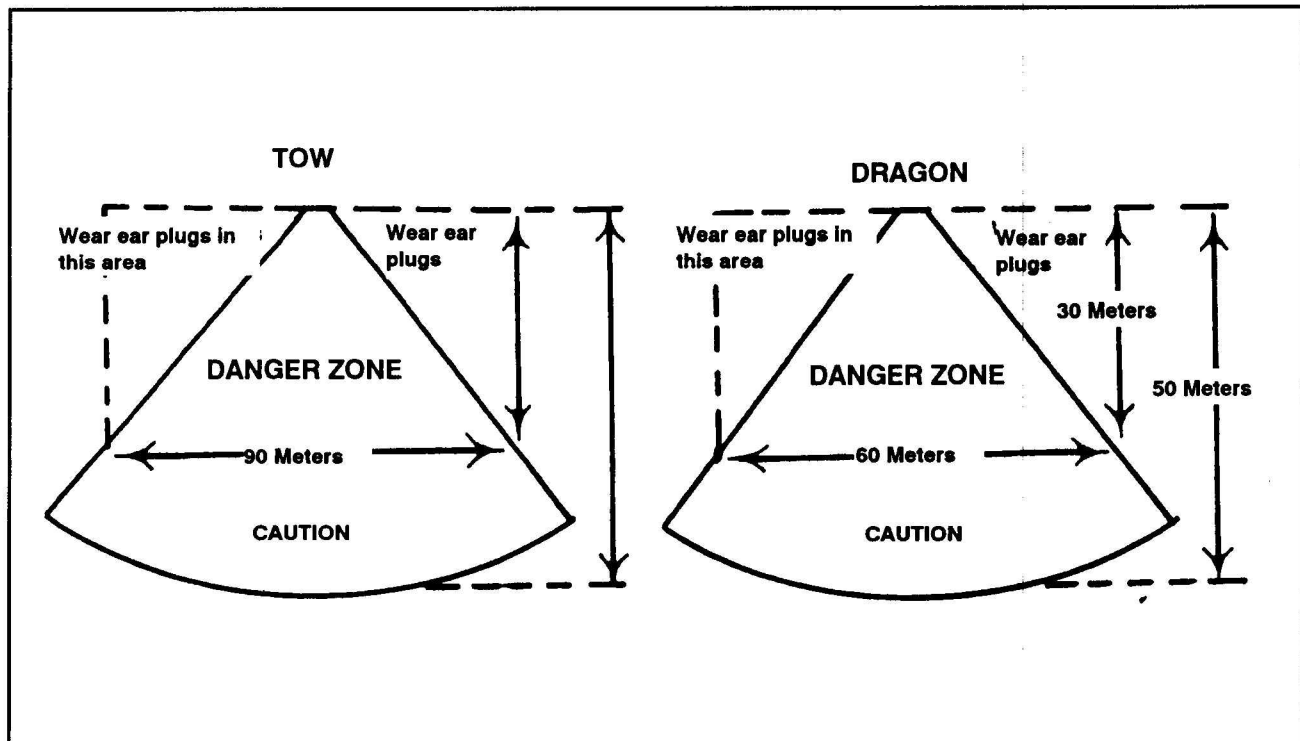

Figure 8-11. ATGM backblast in an open street.
(3) **Backblast.** As for the light recoilless weapons, backblast for ATGMs is more of a concern during combat in built-up areas than in open country. Any loose rubble in the caution zone could be picked up and thrown by the backblast. The channeling effect of walls and narrow streets is even more pronounced due to the greater backblast. If the ATGM backblast strikes a wall at an angle, it can pick up debris, or be deflected and cause injury to unprotected personnel (Figure 8-11). Both ATGMs can be fired from inside some buildings. In addition to the helmet and protective vest, eye protection and earplugs should be worn by all personnel in the room.